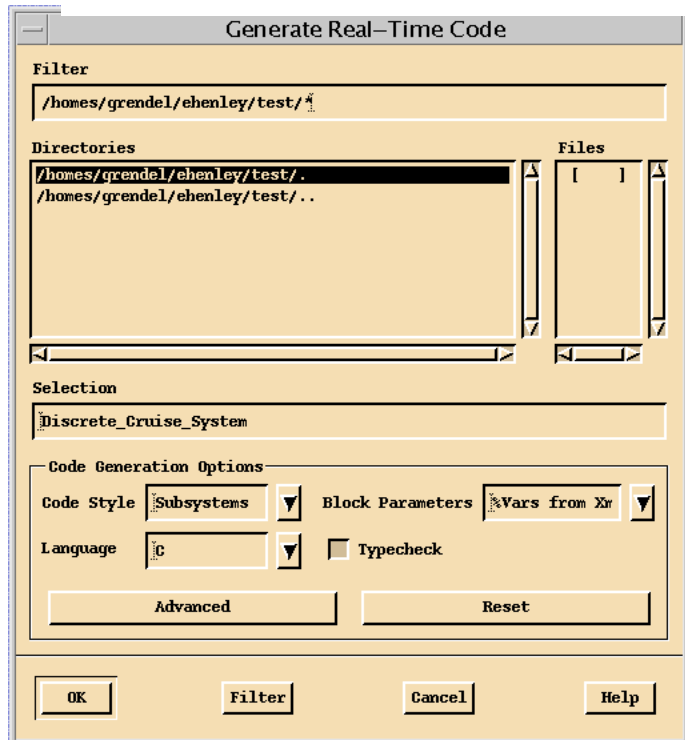

Figure 5-1. Generate Real-Time Code Dialog
- From the Catalog Browser, select Tools→AutoCode to bring up the Generate Real-Time Code dialog (see Figure 5-1).